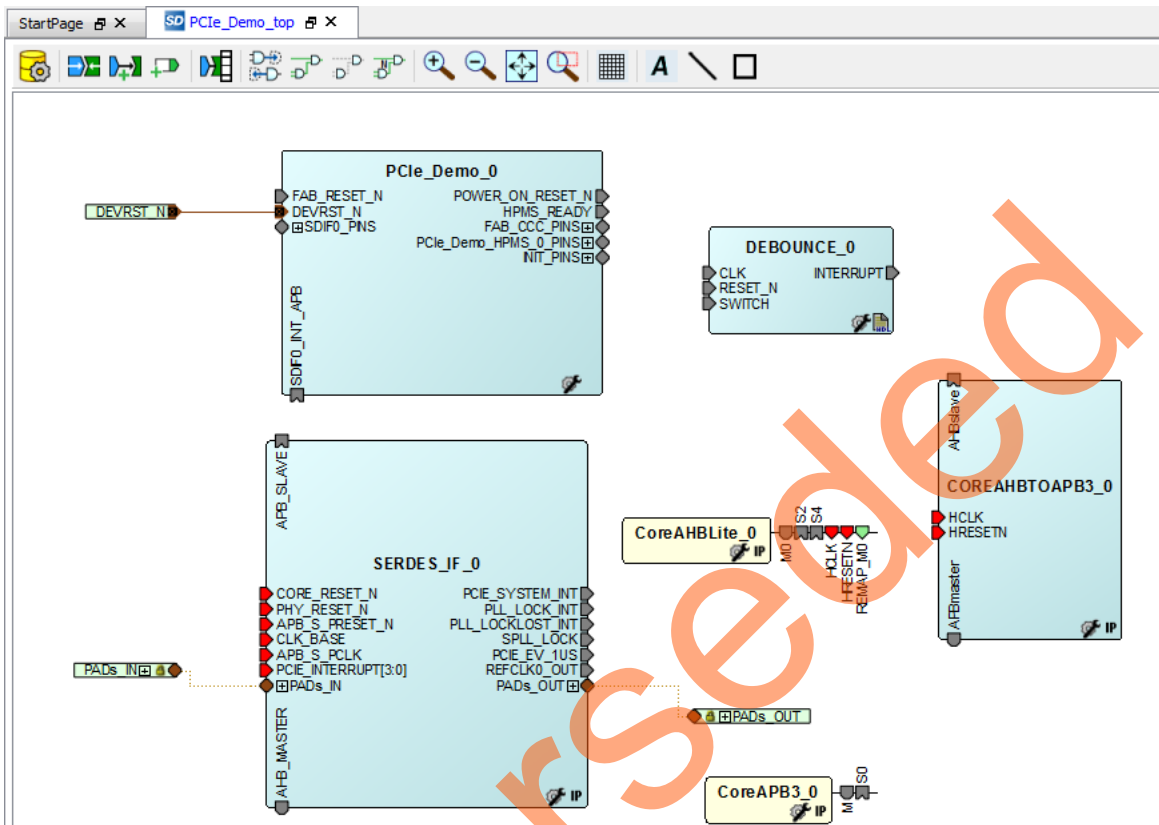

Figure 19 • CoreAHBLite and CoreAPB3 Bus Interfaces in the PCIe_Demo_top SmartDesign Canvas After Configuration
8. Figure 19 shows the PCIe_Demo_top in SmartDesign after configuring CoreAHBLite and CoreAPB3 bus interfaces.